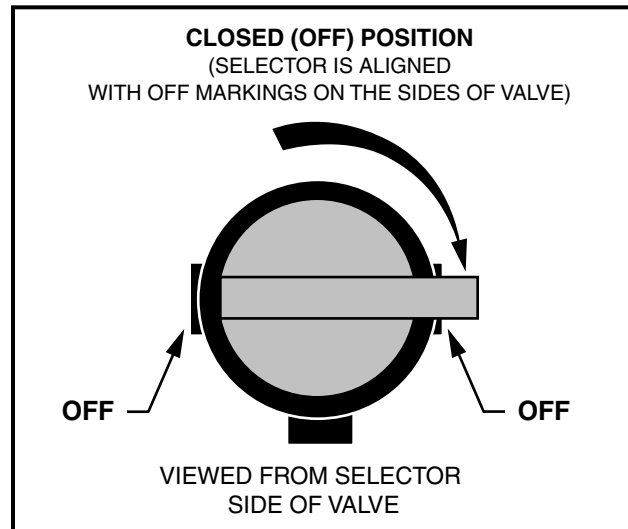

Figure 3-5 Fuel Shut-off Valve – Closed
- Turn fuel shut-off valve to closed (OFF) (**Figure 3-5, Page 3-4**).
- 3.1.4. Turn the fuel shut-off valve to the closed (OFF) position (**Figure 3-5, Page 3-4**) and run the engine until fuel remaining in the carburetor and fuel lines is depleted and the engine stalls. **See DANGER "Do not operate gasoline vehicle..." in General Warning, Section 1, Page 1-1.**
- 3.2.3. Turn the fuel shut-off valve to the closed (OFF) position (**Figure 3-5, Page 3-4**) and run the engine until fuel remaining in the carburetor and fuel line is depleted and the engine stalls. **See DANGER "Do not operate gasoline vehicle..." in General Warning, Section 1, Page 1-1.**